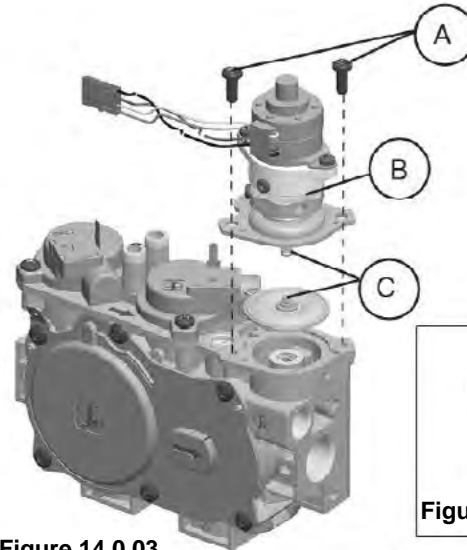

Figure 14.0.03
- Pressure regulator assembly (E)
- Two (2) screws (F)
- Identification label (G)
2. See Figure 14.0.03 to the right. Using a Torx T20, or slotted screwdriver, remove and discard the two (2) pressure regulator mounting screws (A), pressure regulator tower (B), and the spring and diaphragm assembly (C), (if applicable).